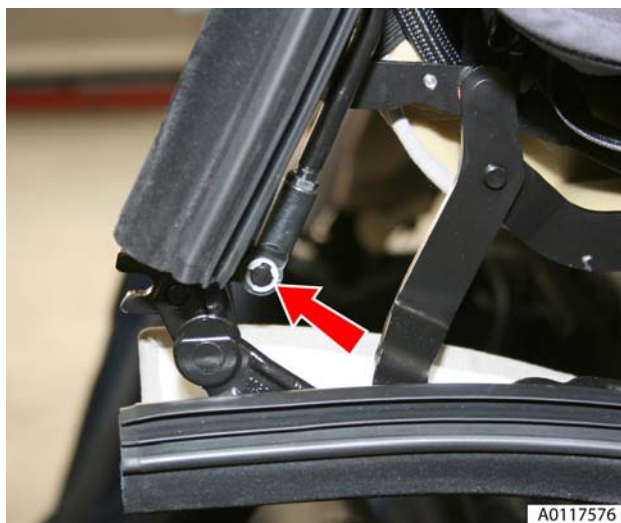

Figure 2
- Remove C-clip securing tie rod to roof hinge, release tie rod (see Figure 2).